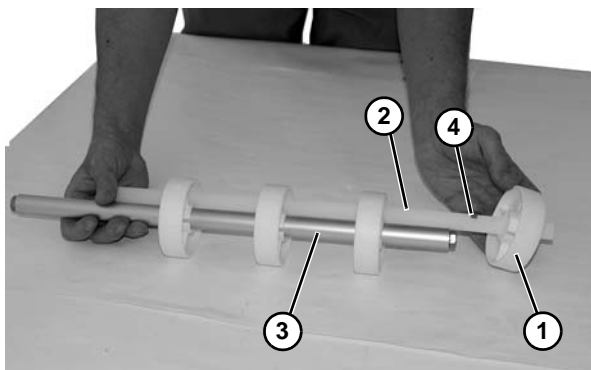

Figure 69
5. Remove rollers (**Figure 69, item 1**) and alignment bar (**Figure 69, item 2**) from shaft (**Figure 69, item 3**). Inspect and replace if worn.
6. Reinstall rollers and alignment bar, with each roller lining up with cutout area (**Figure 69, item 4**) on alignment bar.